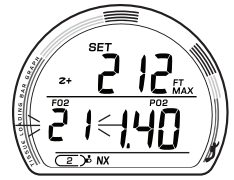

Fig. 29 - SET GAS 2
**TECH SET GAS 2 (3 similar)**, information includes (Fig. 29):